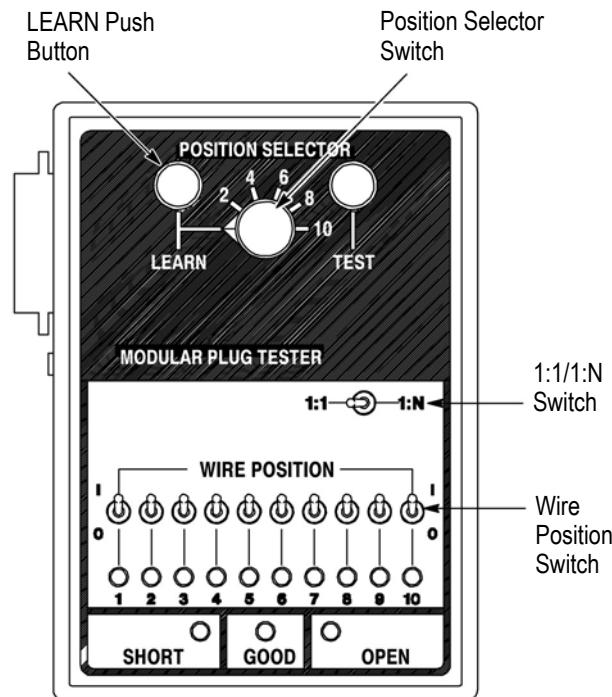

Figure 5
### 3.3. Automatic Circuit Tester Setup (Figure 5)
3. Set the tester switches in the following manner (see Figure 5).